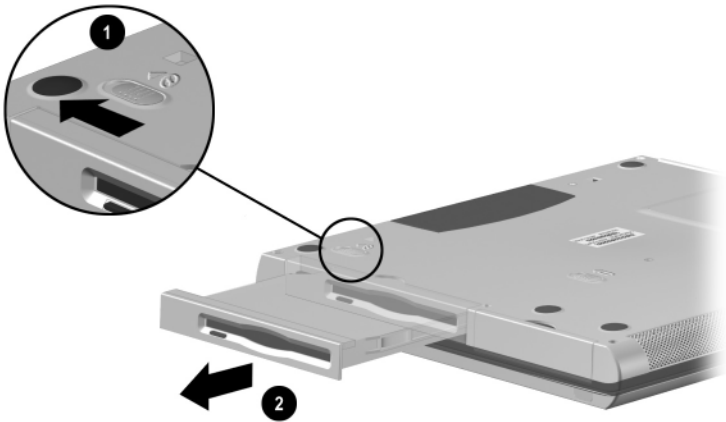

Figure 5-5. Removing a Modular Media Bay Device
- b. Slide and hold the modular media bay release switch ❶ toward the back of the computer (Figure 5-5).
- c. Use the notch in the modular media bay device bezel ❷ to slide the device to the left.